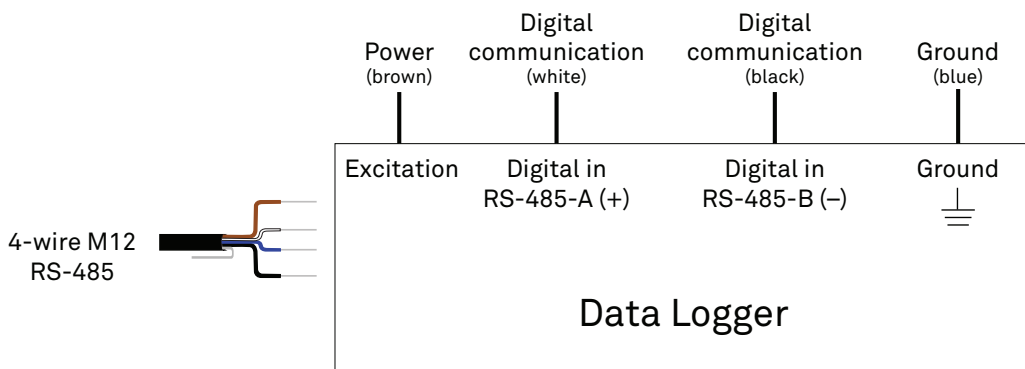

Figure 19 Four-wire M12 connector RS-485 wiring diagram
- RS-485 4-wire cable version (Figure 19)
- RS-485 4-wire version (Figure 19)